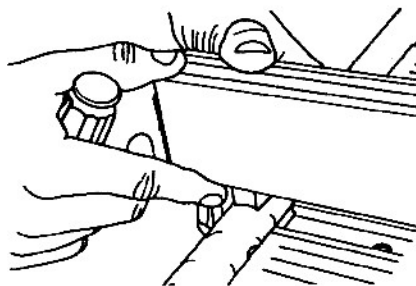

Fig. C-5
10. Check to see if the fence rest fully contacts the outfeed table tube, as shown in Fig. C-5.
c. If needed, use your fingers to adjust the fence rest until it fully contacts the outfeed table tube. Refer again to Fig. C-5.